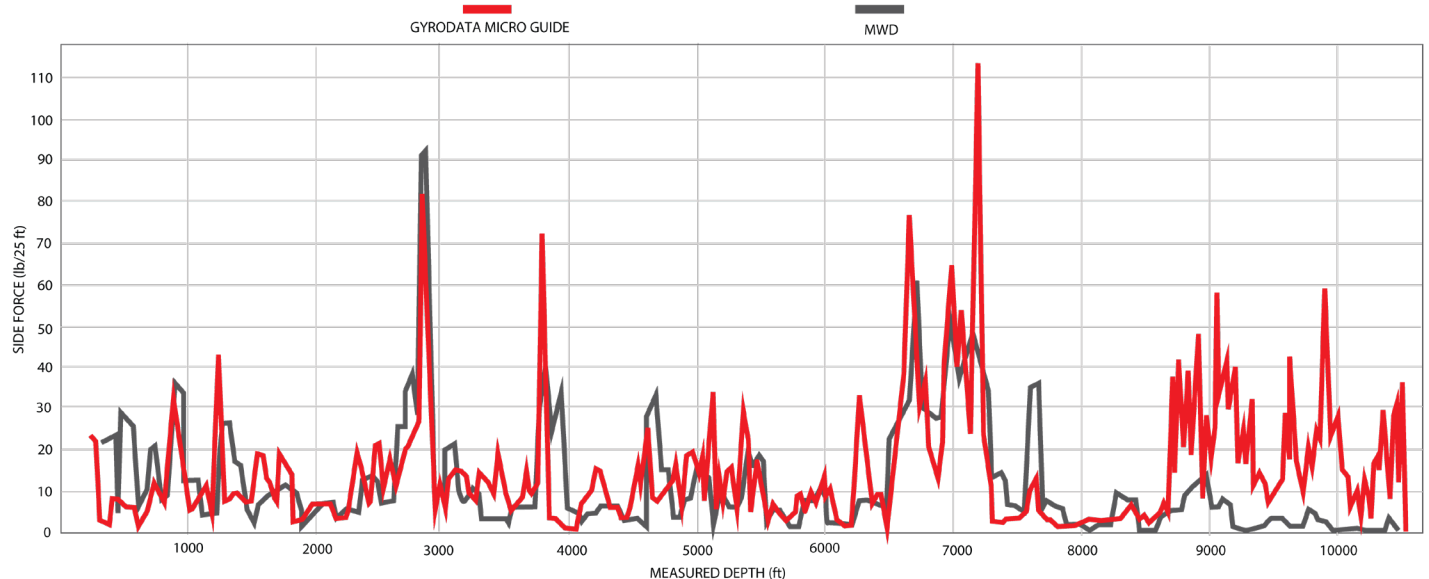

Fig. 1—The data from the MicroGuide logs shows several tortuosity spikes not picked up with the MWD tools, as well as a concerning area from 8,700 to 10,560 ft.
- The MicroGuide analysis revealed several severe spikes in sideloading force against the tubing that were not previously visible with MWD data (**Fig. 1**).